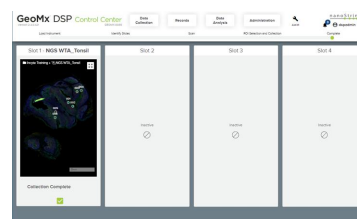

Figure 90: Collection Complete idle state
5. Wait for pop-up message “**No Slides Detected**”. Click OK. Now, the instrument is at the Collection Complete idle software state (see Figure 90).